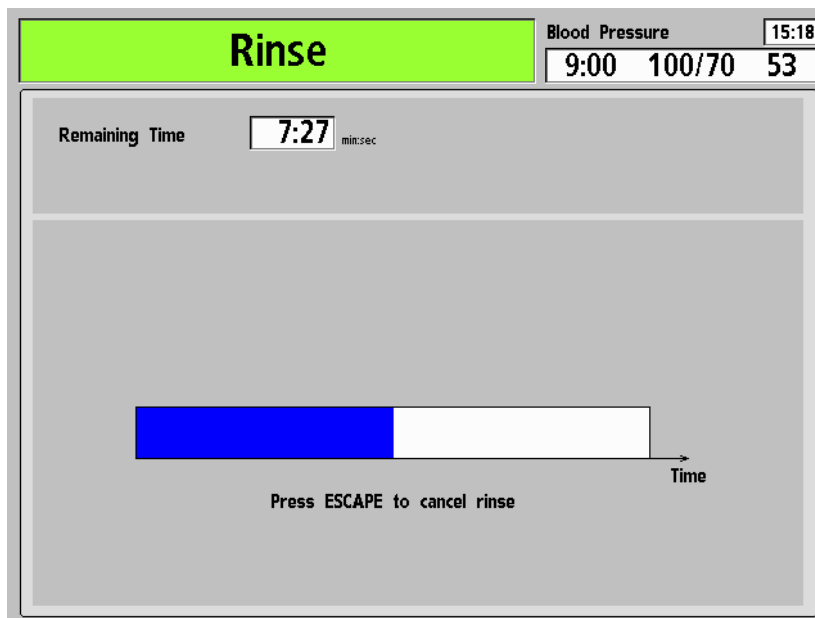

Figure 58 – The Rinse Screen
3. The “Rinse” screen appears in the display (see Figure 58).